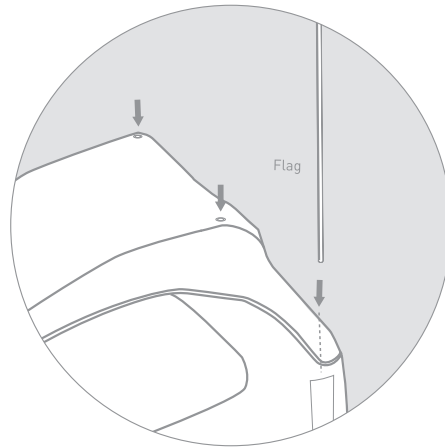

Figure 7
1. Attach cover to trailer using snaps (Figure 7).
2. Assemble the flagpole sections together, then slide safety flag into the flag pocket on the side panel (Figure 7).